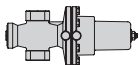

Fig. 5-1: *Mounting position*
- ➔ Install the actuator housing of **Type 44-0 B** suspended downward in horizontal pipelines (see Fig. 5-1).
- ➔ Install **Type 44-1 B** at medium temperatures below 60 °C in any position. At medium temperatures above 60 °C, install it with the actuator housing suspended downward in horizontal pipelines (see Fig. 5-1).